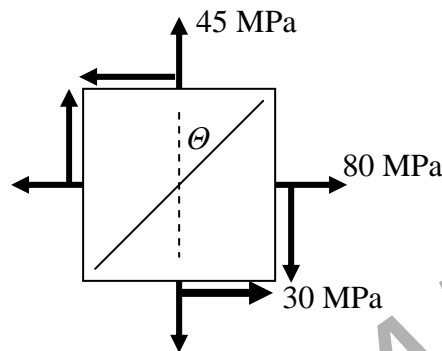

Figure 1
1. The state of stress at a point of a loaded member is shown in figure 1, determine